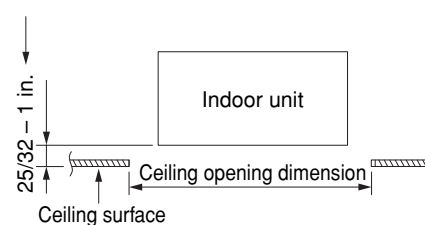

Fig. 3-47
- (2) Check that the positions of the ceiling surface and indoor unit are as shown in Fig. 3-47. If the positions of the ceiling surface and indoor unit are not correct, problems such as air leakage, water leakage, and flap operation trouble may occur.